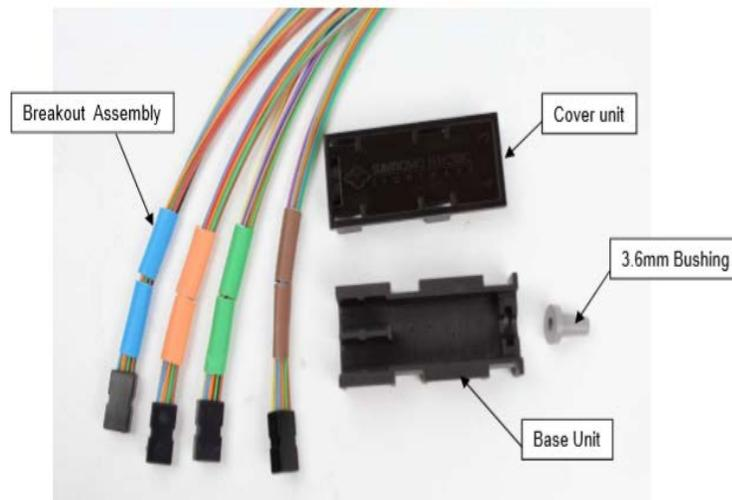

Figure 1
The Base Unit cavity holds four (4) stackable Breakout Unit Assemblies which hold 12 fibers each. See **Figure 1**.